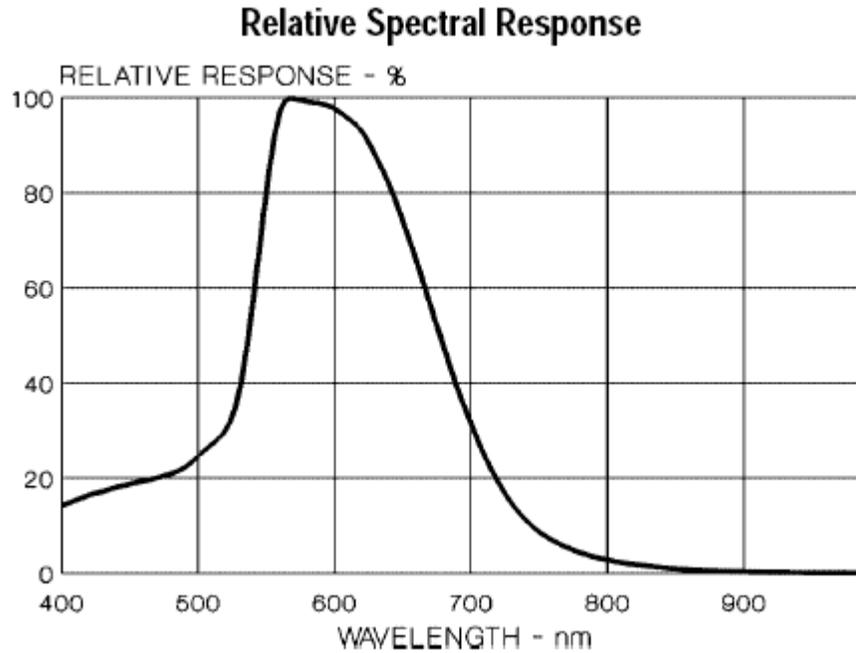

Figure 2.2 Relative Spectral Response
- The spectral response of LDR is specified by lots of relative response versus wavelength (colour) for various material types as shown in figure 2.2.